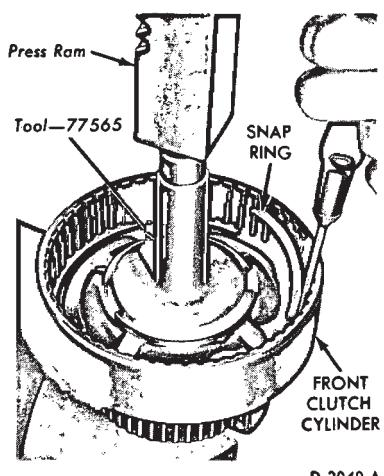

FIG. 34—Removing or Installing Front Clutch Snap Ring
4. Place the front clutch spring compressor on the release spring, position the clutch drum on the bed of an arbor press, and compress the release spring with the arbor press until the release spring snap ring can be removed (Fig. 34).
12. Position the release spring in the clutch cylinder with the concave side up. Place the release spring compressor on the spring, and compress the spring with an arbor press. Then install the snap ring as shown in Fig. 34. Make sure the snap ring is fully seated in the groove.